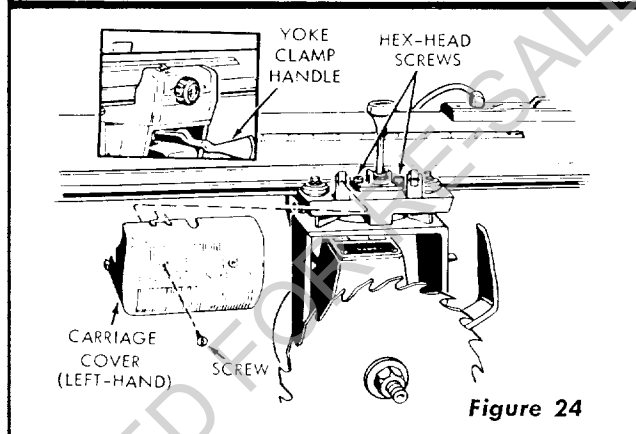

Figure 24
- Remove the left-hand carriage cover (figure 24).
- Install the left-hand carriage cover (figure 24).